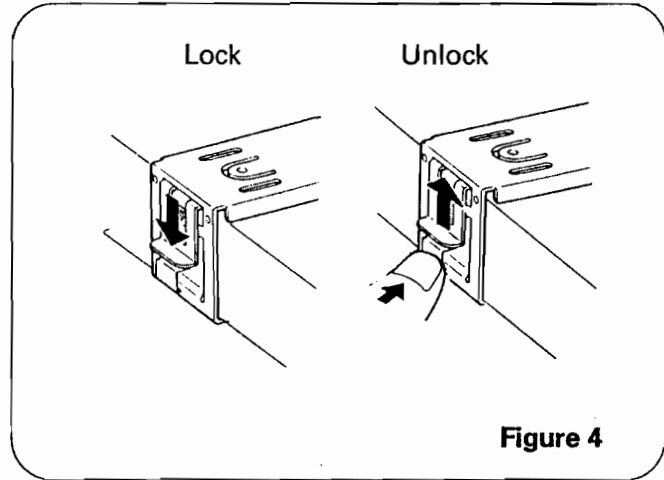

Figure 4
- ④ Insert the radio unit to the bracket, and push the left and right levers downwards to secure the radio unit as shown in Figure 4.